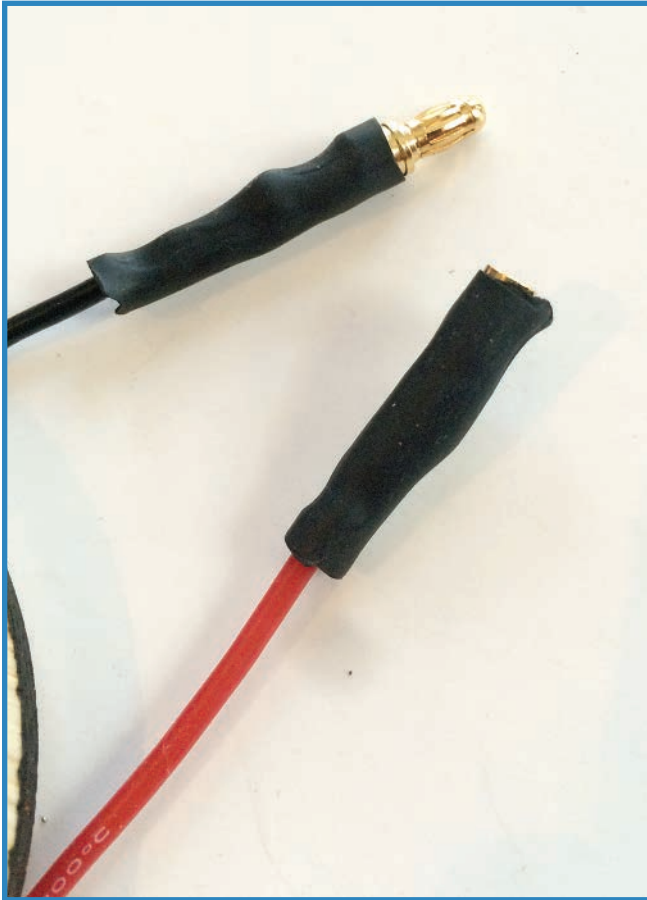

FIGURE 10.10 Put some tubing on the end and shrink it down!
- 6. Add the heat shrink.** Put about an inch of heat shrink on the end of each wire, making sure the contact portion of the male connector is left free. Use your soldering iron barrel to warm the heat shrink so it coats the base of the connector as well as the end of the wire. Figure 10.10 shows successful male and female connectors.